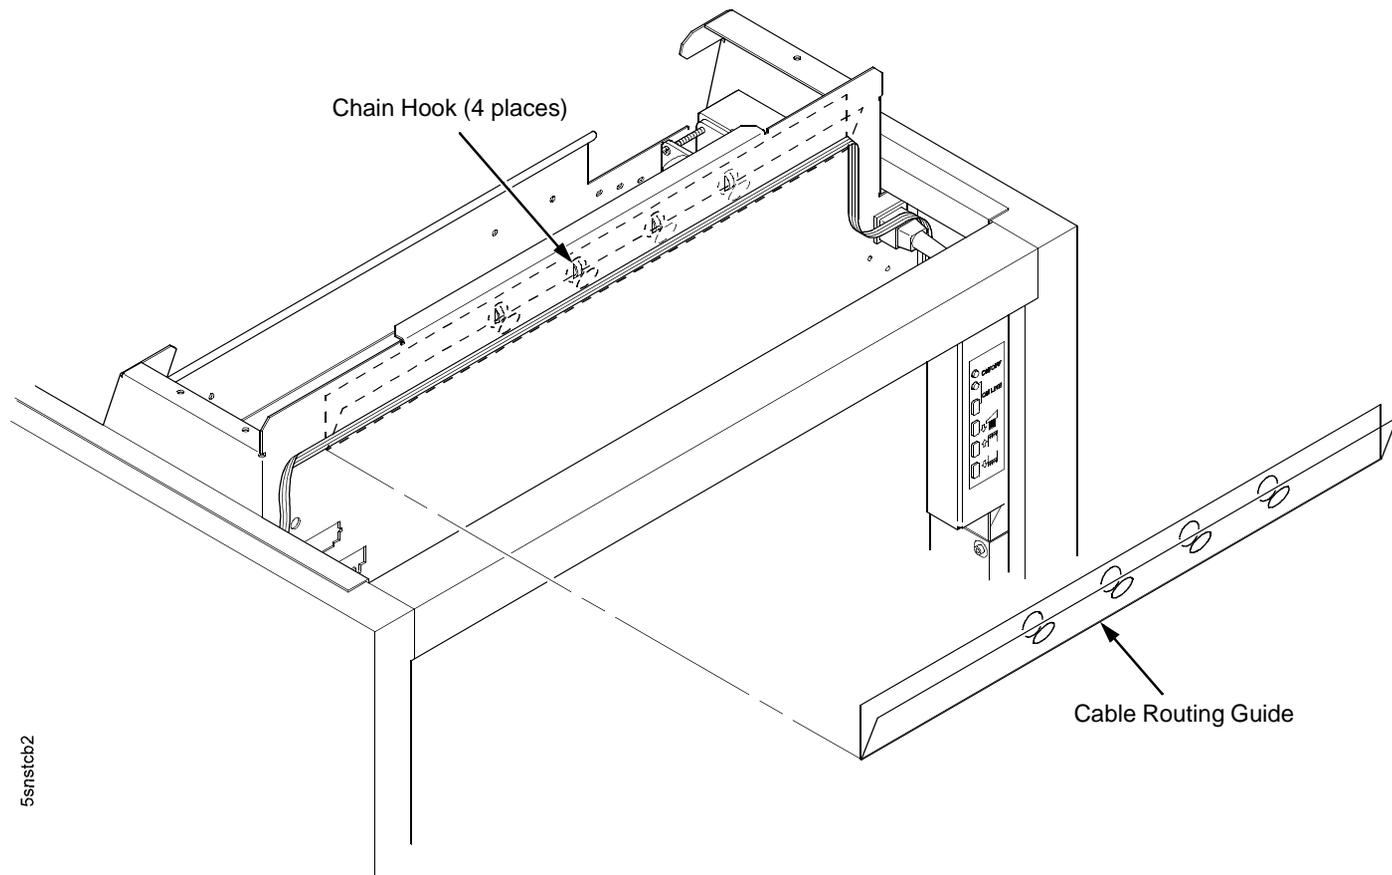

Figure 87. The Cable Routing Guide Behind the Card Cage on Printers Using the CMX or CFX Controller Board
11. Route the stacker logic cable straight through the routing guide, making sure that it is not twisted. (Figure 87.)
12. Position the cable routing guide so that the four chain hooks protrude through the holes in the guide. (Figure 87.)